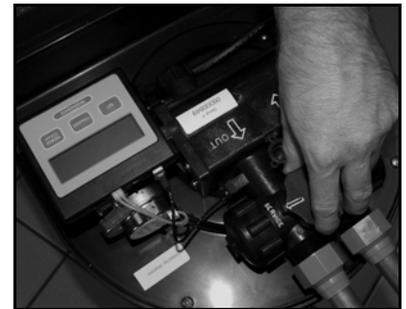

Figure 8: Service Position
6. If your appliance is equipped with a bypass, place the appliance in the Service position to slowly fill the media tank. (See Figure 8.)
- A. Ensure that the bypass valve is in the Service position. See Figure 8.